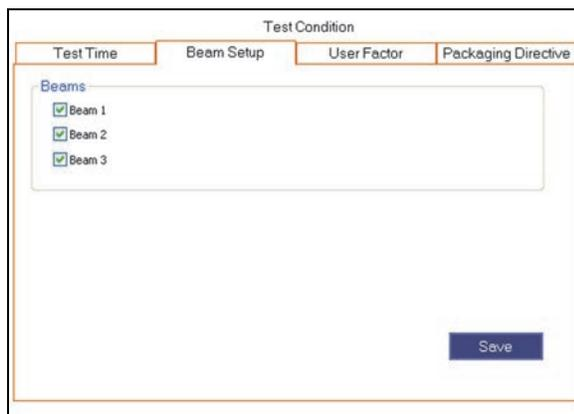

Figure 3-3 The Beam Setup tab
3. On the **Beam Setup** tab, enable or disable beams as required (see Figure 3-3 on page 65).